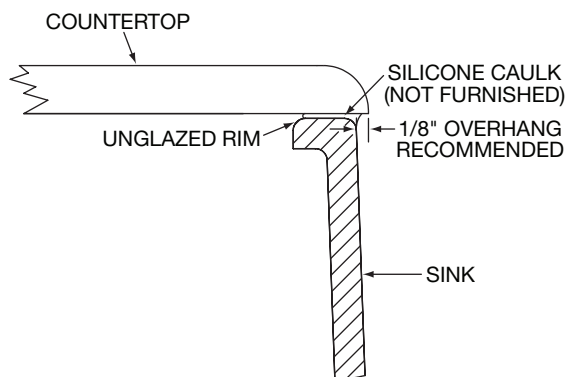

FIGURE 3
- Templates are not included however it is recommended that the sink countertop cutout provide a 1/8" overhang into the sink bowl opening as shown in Figure 3. Do not reduce this 1/8" dimension since the bowl shape and overall size will have dimensional variation.